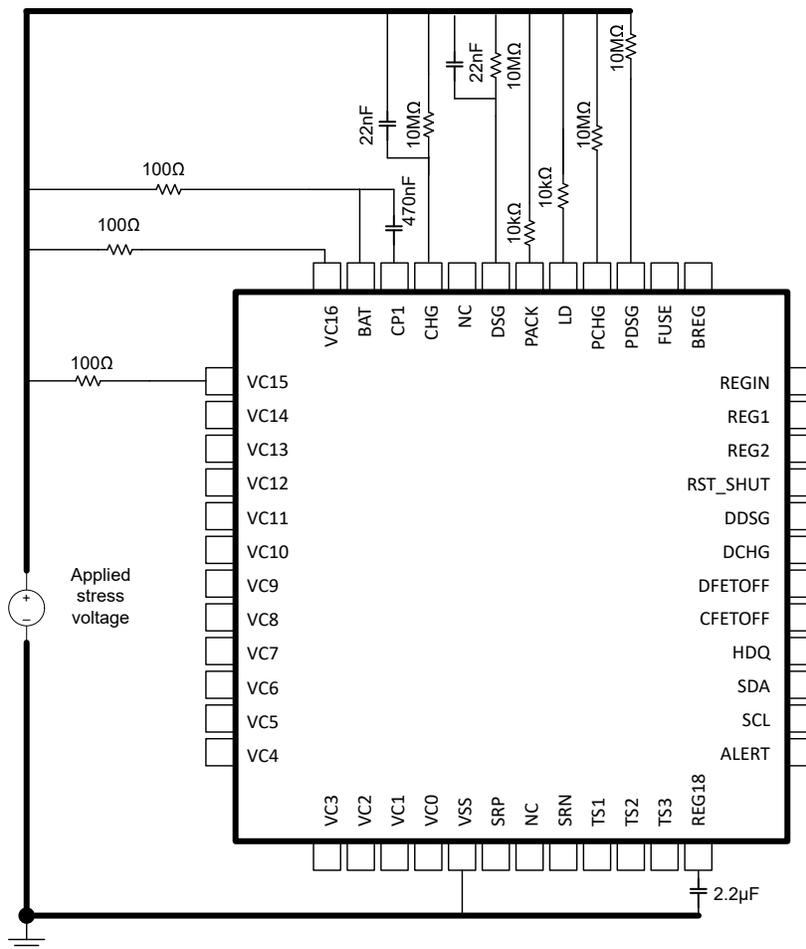

Figure 2-1. Schematic of System Used for Voltage Stress
3. Selected pins on each device were connected through passive components to a single voltage source (initially set to 0 V), as shown in the schematic in Figure 2-1.